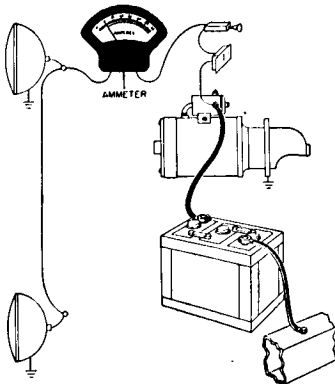
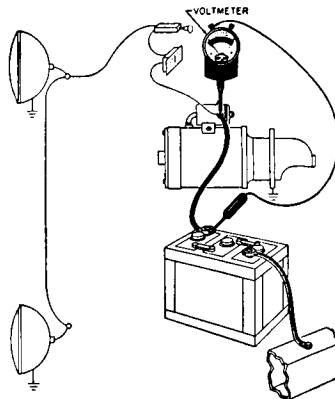
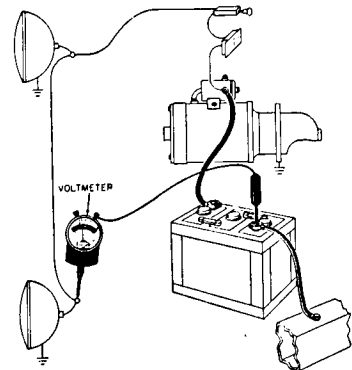

Fig. 1 — An ammeter must always be connected in a circuit in series
Fig. 2 — A voltmeter connected in parallel with a circuit measures the resistance in the circuit expressed in terms of voltage drop
Fig. 3 — A voltmeter connected across a circuit measures the total voltage in a circuit
A Voltmeter is preferred over an ammeter because it is easier to connect than an ammeter. The ammeter must be connected in a series which means a connection must be broken and the meter inserted into the circuit. See Fig. 1. The volt-meter may be used in parallel to read voltage drop in the circuit, i.e. voltmeter connected from positive battery post to positive starter terminal. If connections are good, a zero reading will be obtained. See Figure 2. NOTE: A voltmeter which reads 0-3 volts must be used for this test. Also a voltmeter may be connected across the circuit which will read total circuit voltage, See Figure 3, i.e. connect meter from positive side of light to ground. This reading should be compared to battery voltage. If circuit voltage is lower than battery voltage, there is a voltage drop in the system which can be caused by a poor connection, too small a wire, etc. NOTE: Some circuits may normally have a voltage drop but it should be very low. Use voltmeter in parallel to find the problem area.
- Step 1. Leave voltmeter connected as shown in Fig. 1. NOTE: See Fig. 3 & 4 for "B" circuit connections.